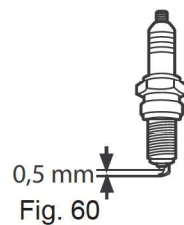

Fig. 60
- > Check the spark plug gap. It should be 0.5 mm (Fig. 60)